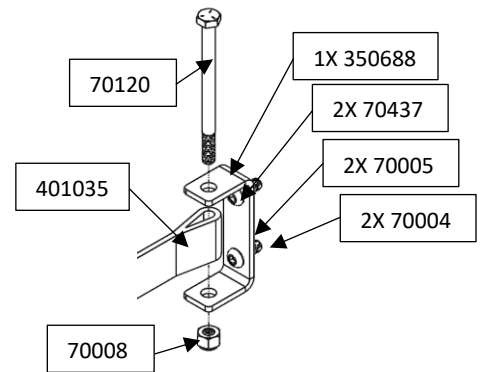

Figure 16: Complete Door Stop Install
27. Thread the other side of the door stop strap into door jam bracket (installed in step **Error! Reference source not found.**) using $\frac{1}{4}$ "-20 x 3" bolt and $\frac{1}{4}$ "-20 nylock nut (Figure 16).